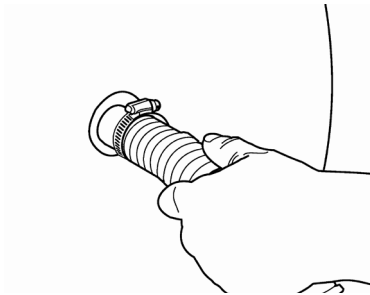

Figure 17
2. Insert grey flex hose with tube connection into Blower Outlet. It should slide in easily. (Figure 17).